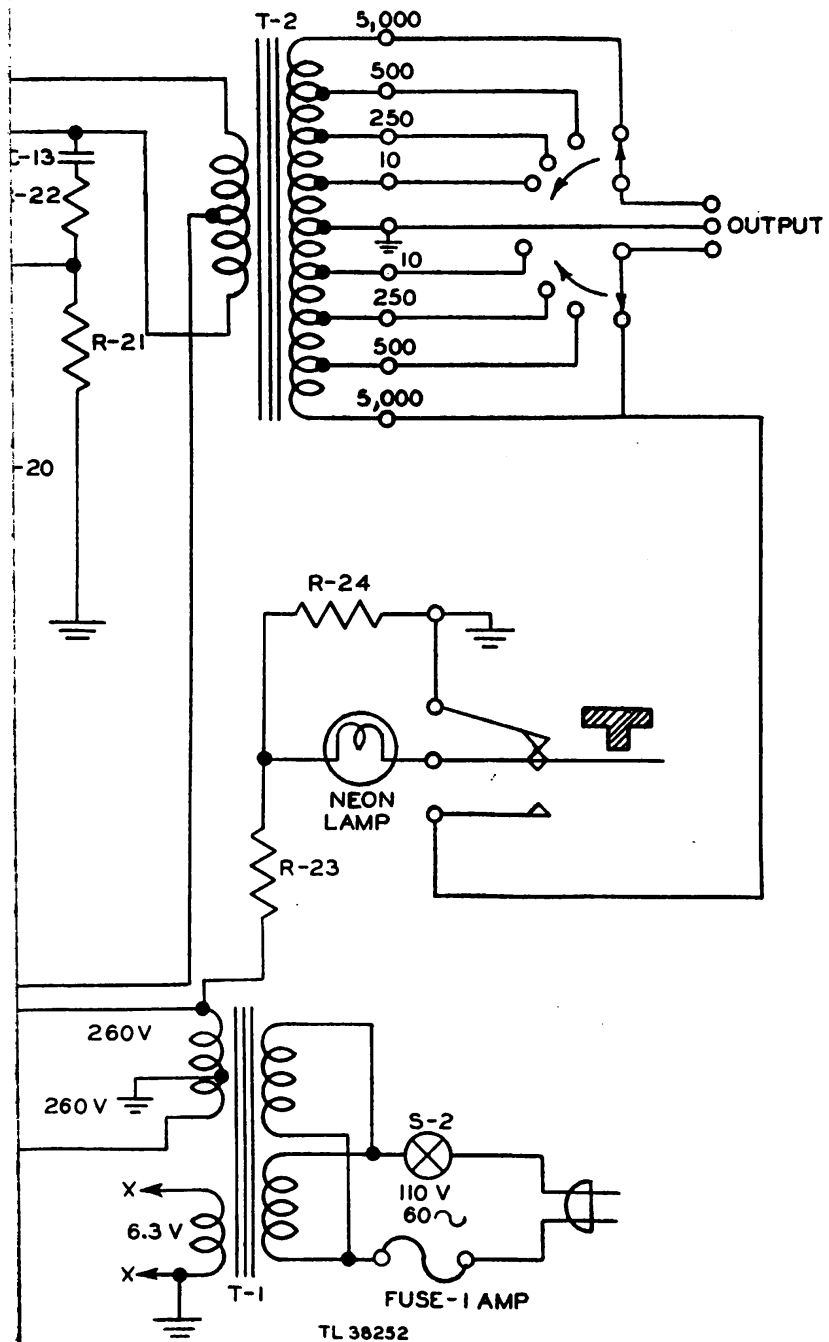

Figure 3. Oscillator I-151-A, schematic diagram.
6. OSCILLATOR (fig. 3).
7. AMPLIFIER (fig. 3).
8. POWER SUPPLY (fig. 3).